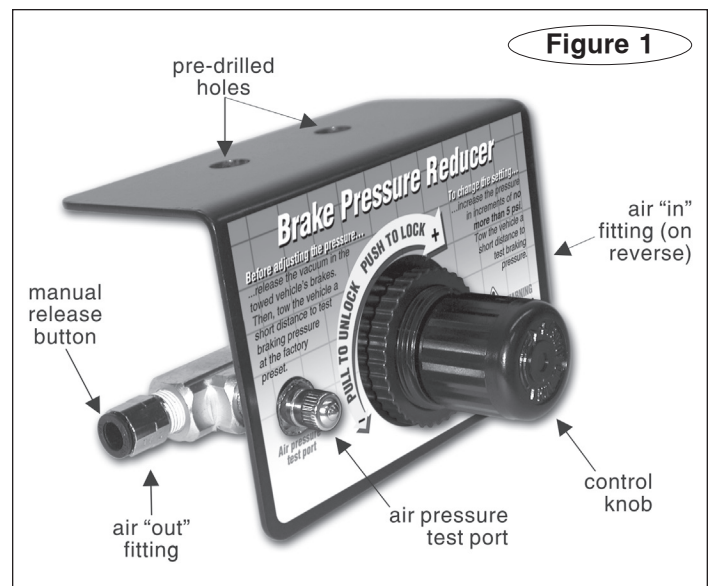

Figure 1
- The reducer must be mounted to allow easy access to both the control knob (Figure 1) and the air pressure test port (Figure 1).
(If you inadvertently attach one end of the air line to the wrong fitting, depress the manual release button – Figure 1 – and pull the line out.)
3. Attach the bracket – at the mounting location you have chosen, use the two pre-drilled holes in the bracket (Figure 1) as templates to mark and drill two 3/8” holes.
2. Two people – one at the motorhome (to apply the brakes) and one at the brake pressure reducer – are required. At the brake pressure reducer, unscrew the cap from the air pressure test port (Figure 1), and insert the stem of a tire pressure gauge into the port.
3. Pull out on the control knob (Figure 1) to unlock it. Turn